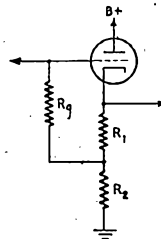

Fig. 17 — Cathode follower with  $Z_o$  matched to load.
From equation (33) it can be seen that the stage always operates with a gain of less than 1 and that the higher the value of  $R_k$  the closer to unity the gain becomes. The circuit in Fig. 17 is sometimes used to secure higher output voltages. In this circuit,  $R_k$  is divided into two parts,  $R_1$  and  $R_2$ , arranged so that the d.c. voltage drop across  $R_1$  is equal to the required grid bias and, since the grid is returned to the junction of  $R_1$  and  $R_2$ , the correct bias will be obtained; the  $G_m$  will not change, but  $R_k$  will be increased and also the voltage output, from equation (33). Similarly,  $Z_o$  will be changed, from equation (34).
By using the arrangement shown in Fig. 17, a perfect match into a 72-ohm line can be obtained by making  $R_1$  160 ohms and  $R_2$  45 ohms. The gain,  $A$ , then would be